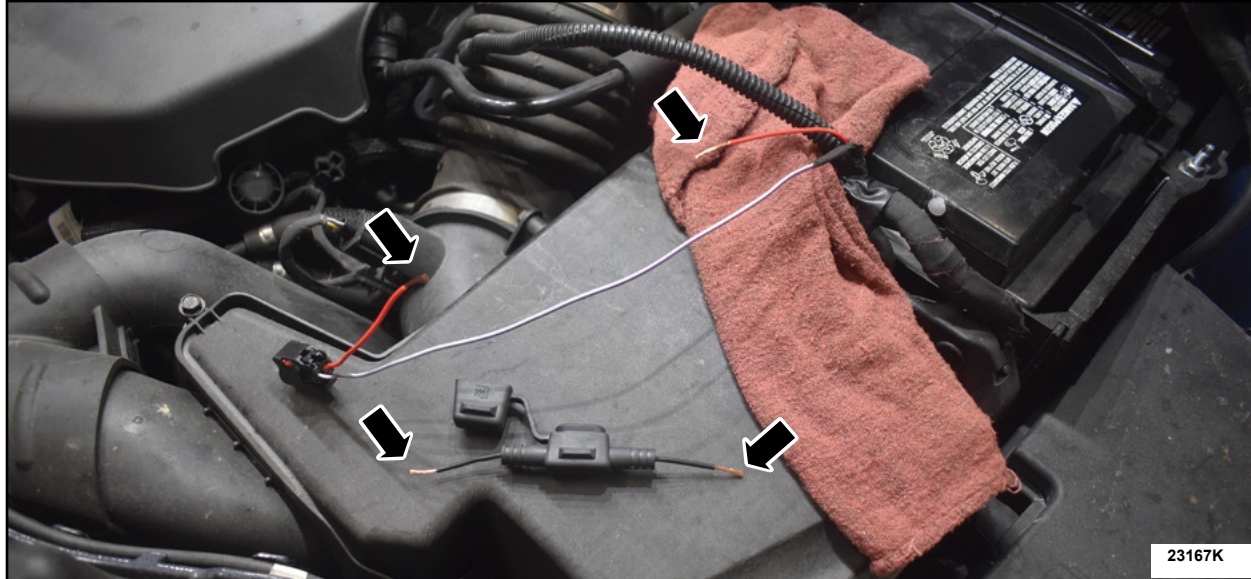

FIGURE 6
8. Strip back 10.16mm (0.4 in) of the wire insulation on all four (4) wires. See Figure 6.